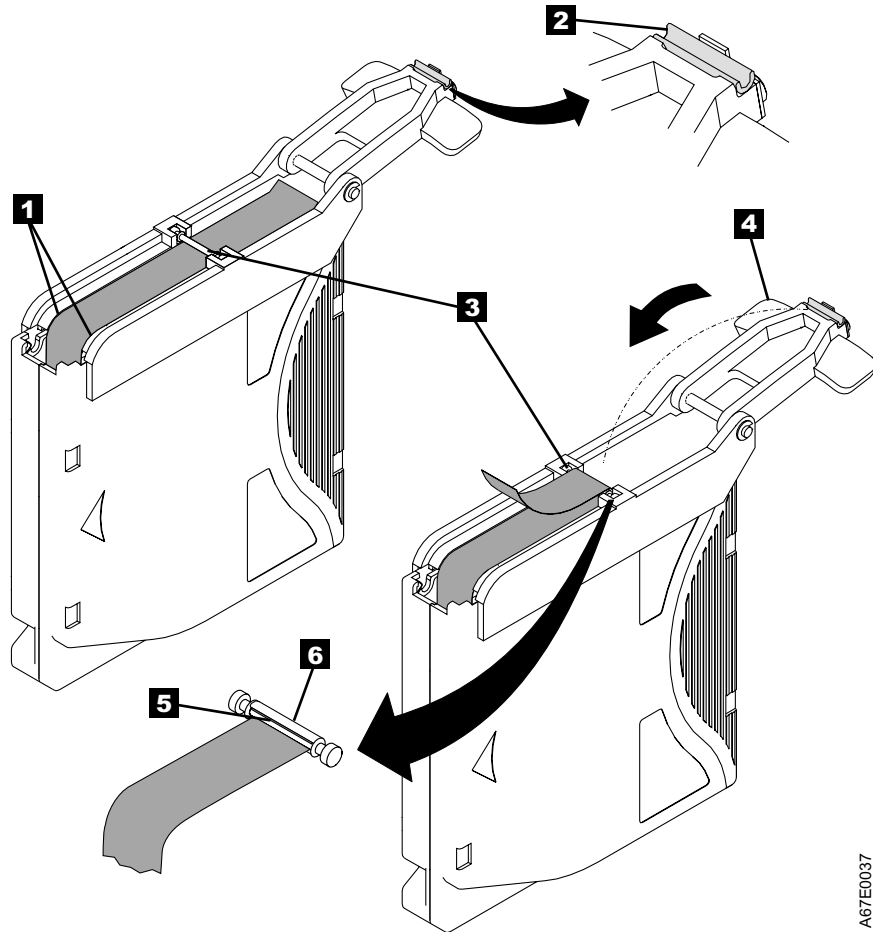

Figure 23. Attaching the leader pin to the tape
7. Position the tape in the alignment groove of the leader pin attach tool (see **1** in Figure 23).
8. Place a new C-clip into the retention groove **2** (Figure 23) on the leader pin attachment tool and make sure that the clip's open side faces up.
9. Place the leader pin (from step 6 on page 59) into the cavity **3** (Figure 23) of the leader pin attach tool.
10. Fold the tape over the leader pin and hold it with your fingers (see Figure 23).